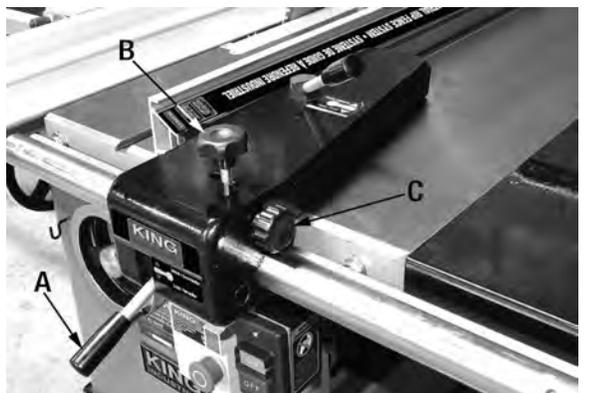

FIGURE 54
2. Raise the rip fence lock lever (A) Fig.54 to unlock the rip fence. Loosen the top lock knob (B), then turn the side lock knob (C) to adjust the rip fence position in small increments.
3. Turn lock knob (C) clockwise to move the rip fence towards the right, and counterclockwise to move the rip fence towards the left.
4. Once adjustment is made, retighten top lock knob (B) and lower lock lever (A) to lock the rip fence position.